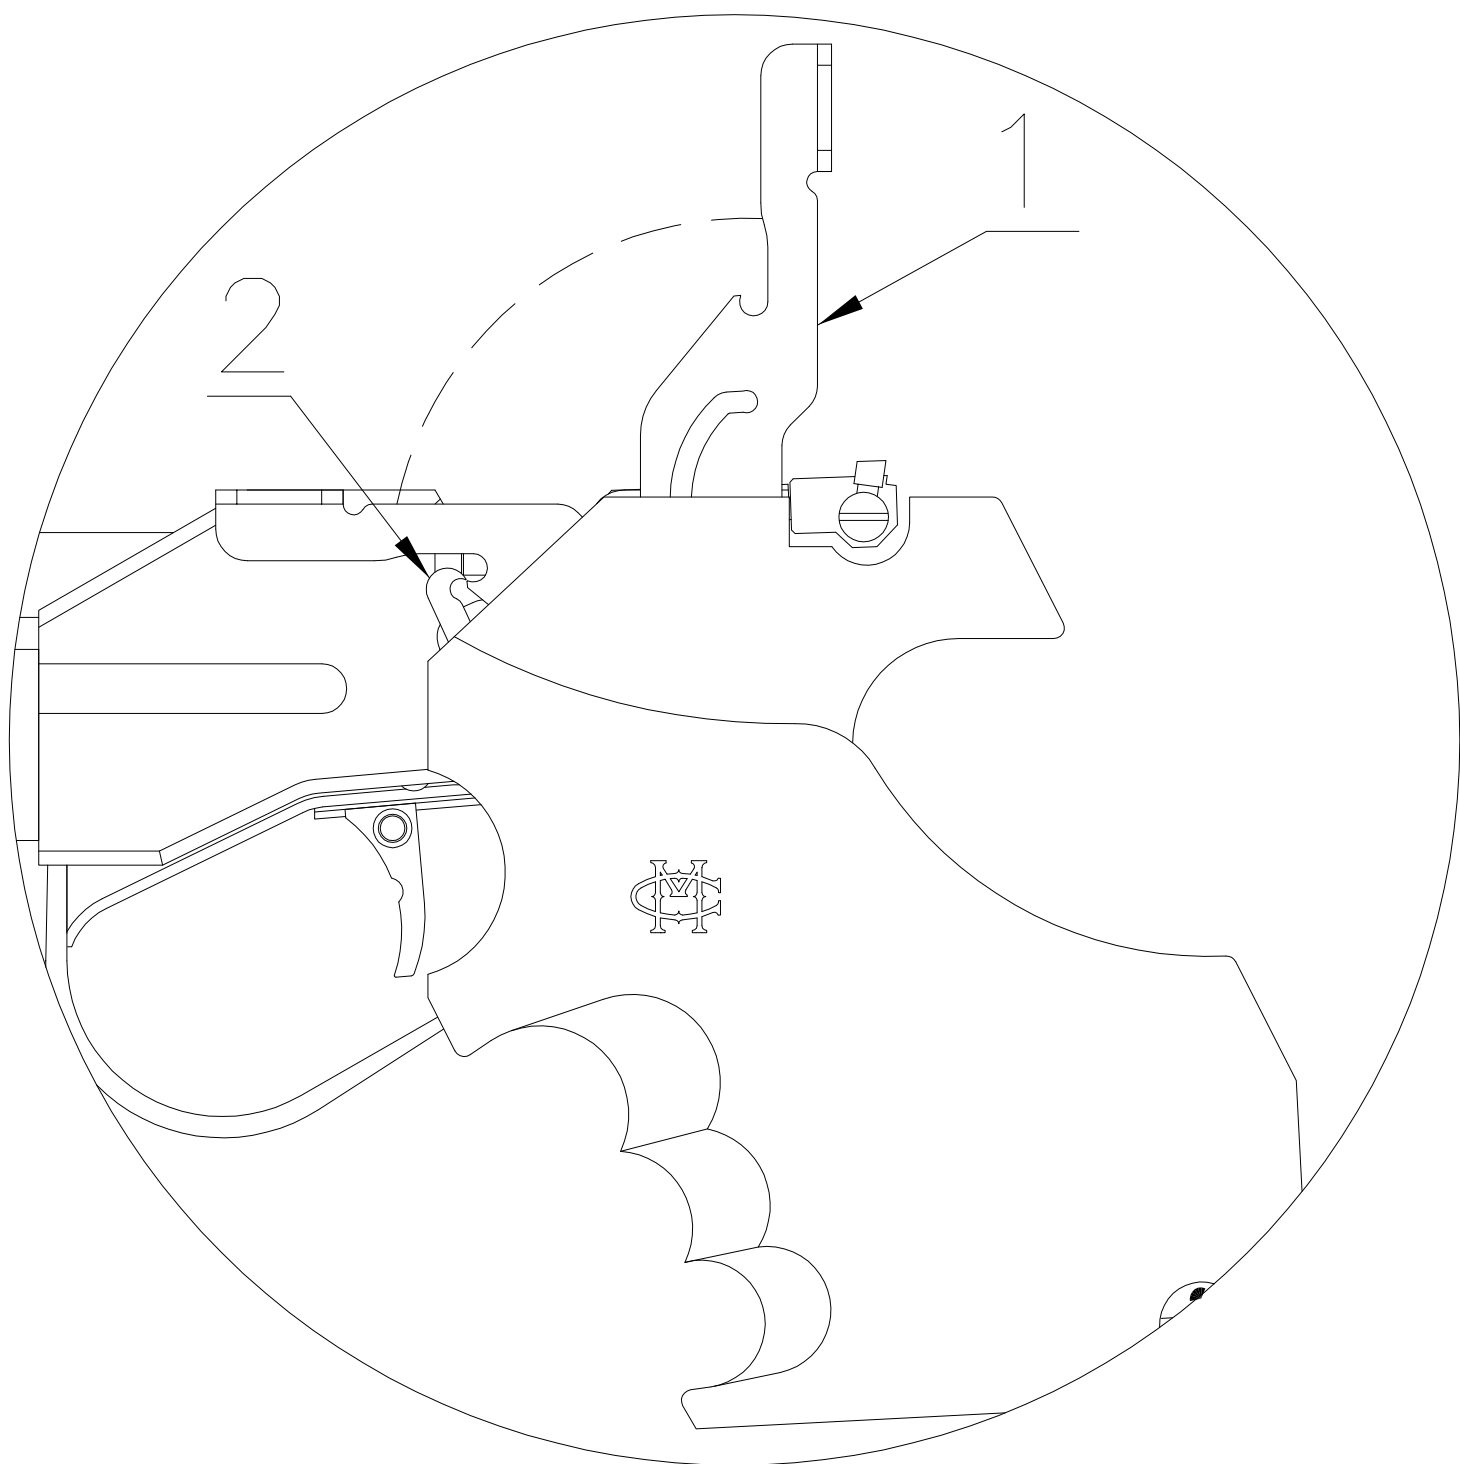

Fig. 3
3. Trigger adjustment (*Fig. 3*)